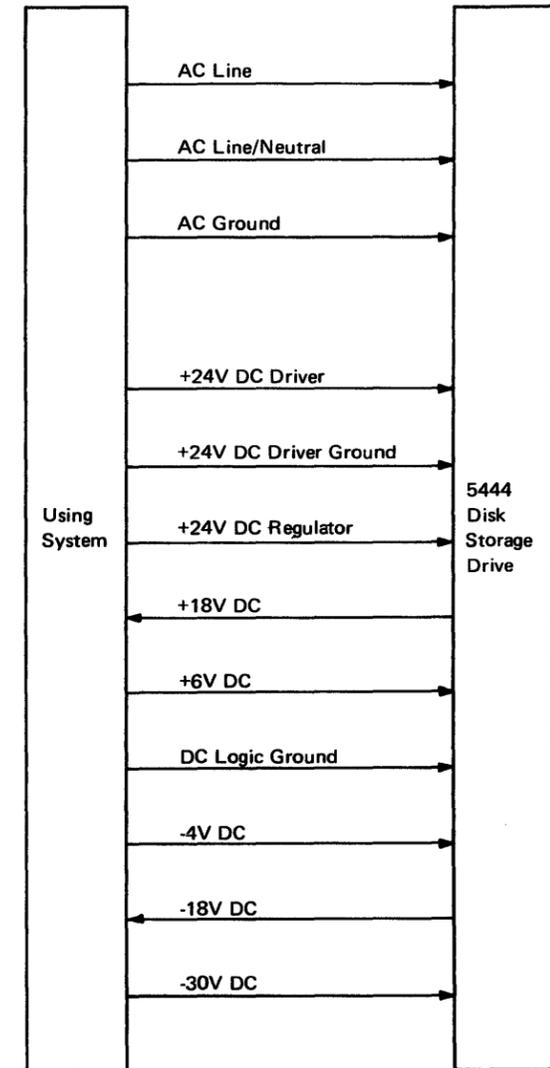

Figure 1-62. Input Power Lines [07523]
- The input power lines are shown in Figure 1-62.